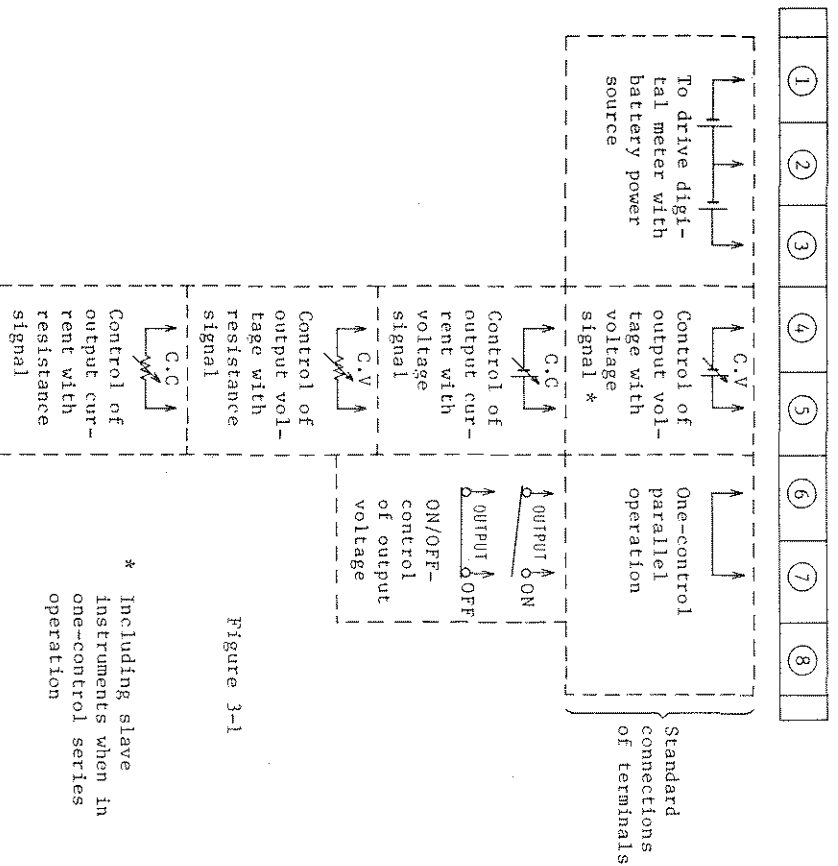

Figure 3-1
The relationships between the terminal numbers of the rear terminals and the application functions are as shown in Figure 3-1.
As can be seen in Figure 3-1, terminals ④ and ⑤ and terminals ⑥, ⑦ and ⑧ are used in common by changing the internal connectors on the PC board. Therefore, it is not possible to control the output voltage and current at the same time or to ON/OFF-control the output of the instruments which are in one-control parallel operation.